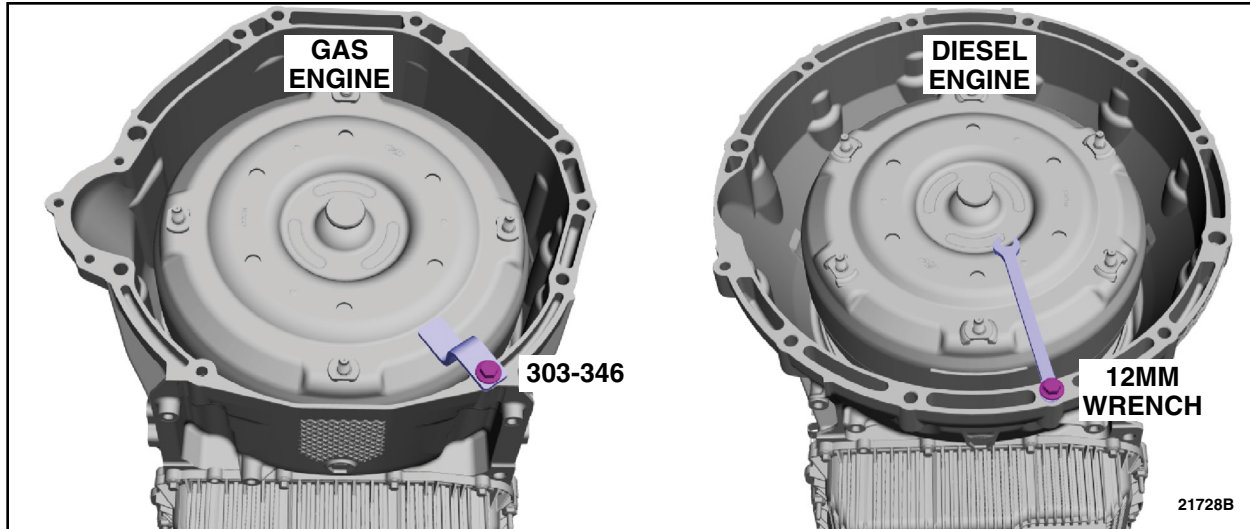

FIGURE 2
3. Rotate the transmission to a vertical position. See Figure 2.